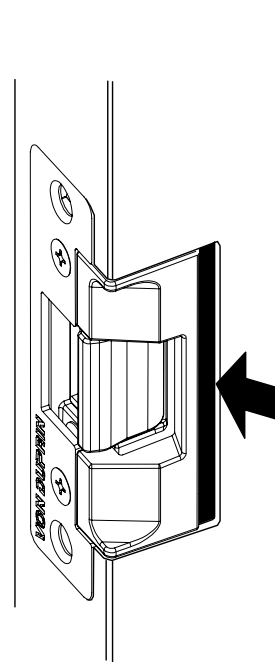
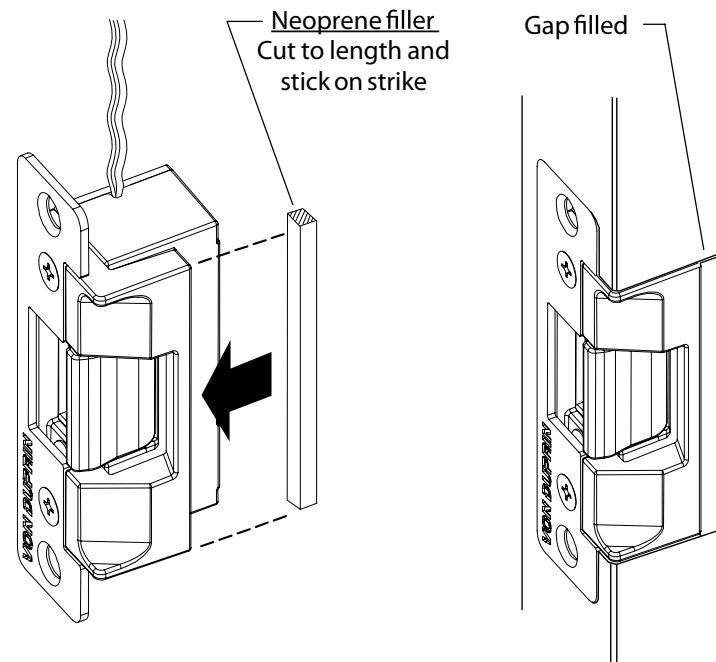

Figure 6
Figure 7
- Test strike: Apply solenoid power. Fail secure (FSE) lip unlocks. Fail safe (FS) lip locks.
- If cut-out for strike is too large along edge (Figure 6), cut neoprene filler and stick onto strike as shown (Figure 7). Note: This could occur in some retrofit applications.